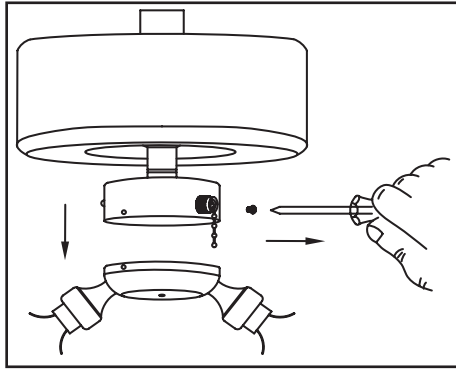

Figure 15a
2. Carefully pull down the light kit and disconnect the two plugs that connect the light kit to the fan. Tuck the wires from the fan into the switch cup (Figure 15a).